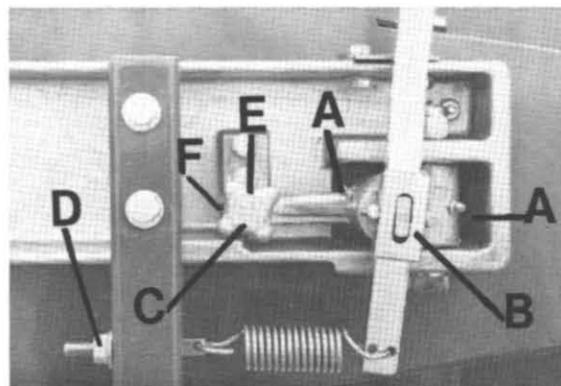

Fig. 7
Weekly: Oil belt tension release pivot (B) Fig. 7, with motor oil. Thoroughly clean grinding residue from the entire machine. Use WD-40 on mechanical parts, and a good household cleaner on the cabinet.
Monthly: Add grease to fittings (A) Fig. 7 with a standard automotive grease gun. One or two strokes of the grease gun is sufficient. Oil casters with a few drops of motor oil. Oil tracking knob thread. Empty water tank, clean out grinding residue.
The adjustable friction device consists of a small nylon plug under a set screw. The friction device prevents the tracking knob from backing out while the machine is running. If the tracking knob turns with very little effort with the belt released, tighten the set screw (F) Fig. 7.